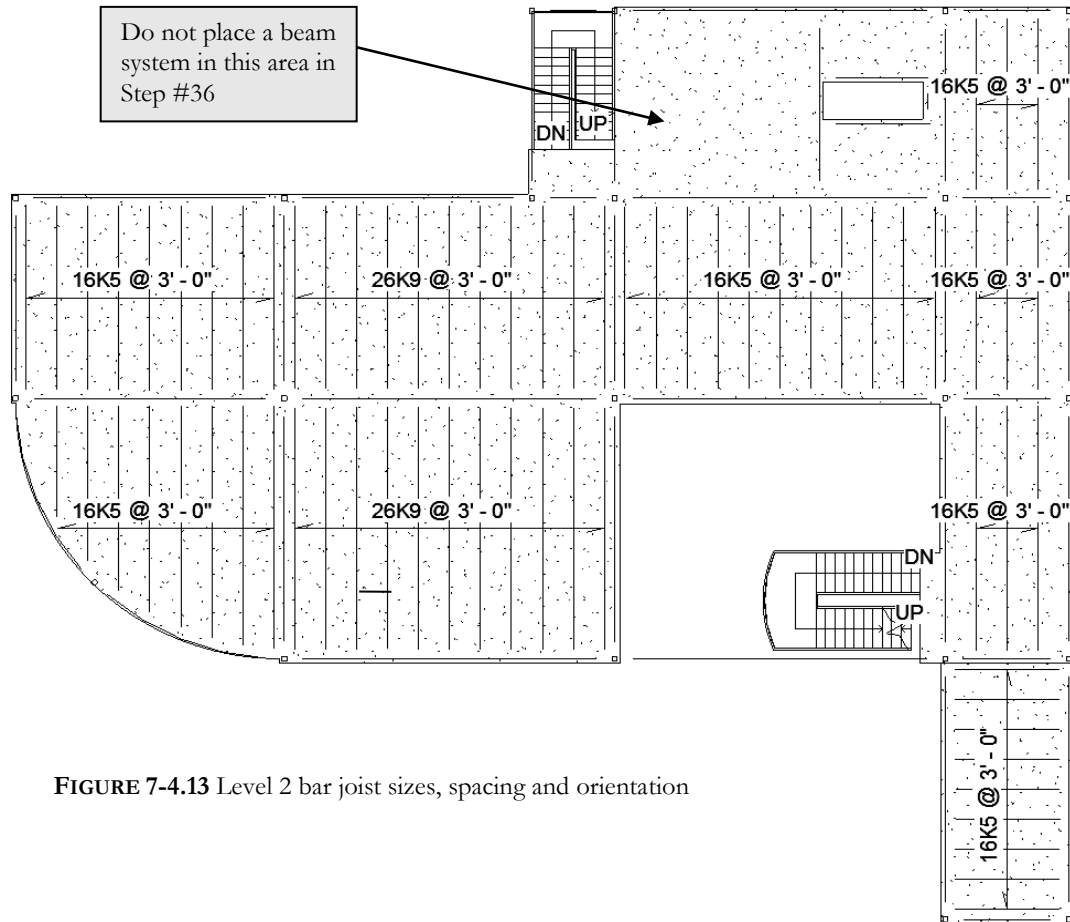

FIGURE 7-4.13 Level 2 bar joist sizes, spacing and orientation
36. **Save** first, and then place the remaining *Beam Systems* for the information shown in Figure 7-4.13.